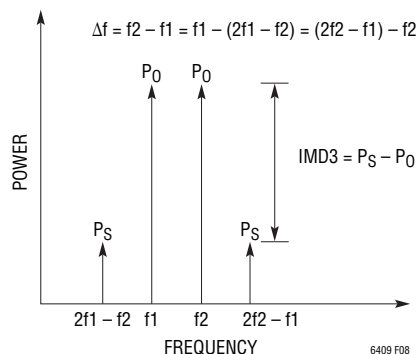
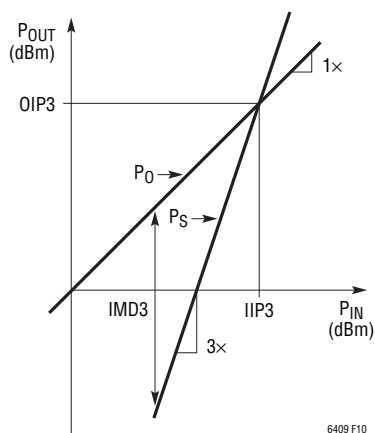

Figure 8. Definition of IMD3
Figure 9. Graphical Representation of the Relationship between IMD3 and OIP3
The definition of 3rd order intermodulation distortion (IMD3) is shown in Figure 8. Also, a graphical representation of how to relate IMD3 to output/input 3rd order intercept points (OIP3/IIP3) has been depicted in Figure 9. Based on this figure, Equation (4) gives the definition of the intercept point, relative to the intermodulation distortion.
P₀ is the output power of each of the two tones at which IMD3 is measured, as shown in Figure 9. It is calculated in dBm as: